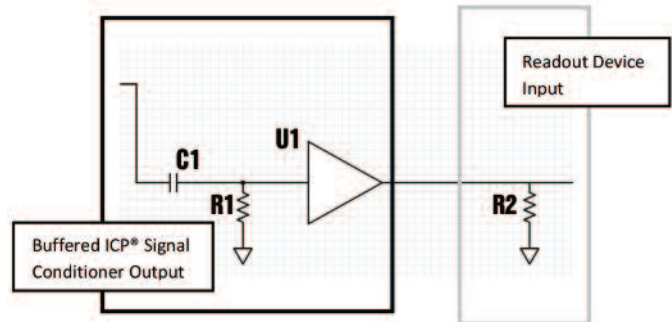

Figure 2 - Buffered Circuit Schematic
2. Buffered output: The output impedance of the conditioner is set by an operational amplifier located after the output resistor in the signal conditioner. In this configuration, the output resistor does not set the output impedance of the conditioner, and does not form a parallel circuit with the input impedance of the readout device (see Figure 2).
- R1** (in Figure 2) = Output resistor of signal conditioner
An operational amplifier is placed after the resistor at the output of the signal conditioner (the amplifier is U1 in Figure 2). This amplifier acts as a buffer and isolates the output resistor from the input impedance of the readout device. The resistor that typically sets the output impedance of the conditioner is no longer in parallel with the input impedance of the readout device. The placement of the amplifier negates any impact that the input impedance of the readout device has on the signal conditioner DTC or low frequency response. The DTC equation for the signal conditioner is the same as Equation 1 but R is no longer a system